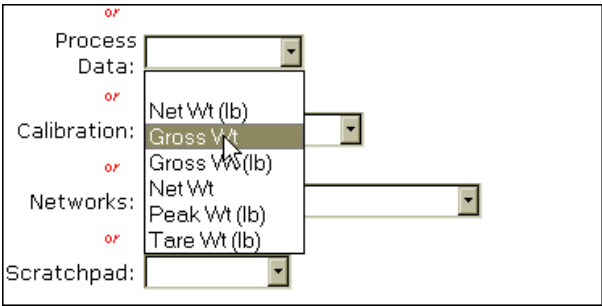

FIG. 267: MAPPING SETUP 2/SELECTING PROCESS DATA/GROSS WEIGHT
Step 8. Click on the Process Data Pull Down List. (See Fig. 267)
Step 9. Click on Gross Weight. (See Fig. 267) Gross Wt appears in the Process Data field with a Chan field containing the number 1 which is the channel we want.